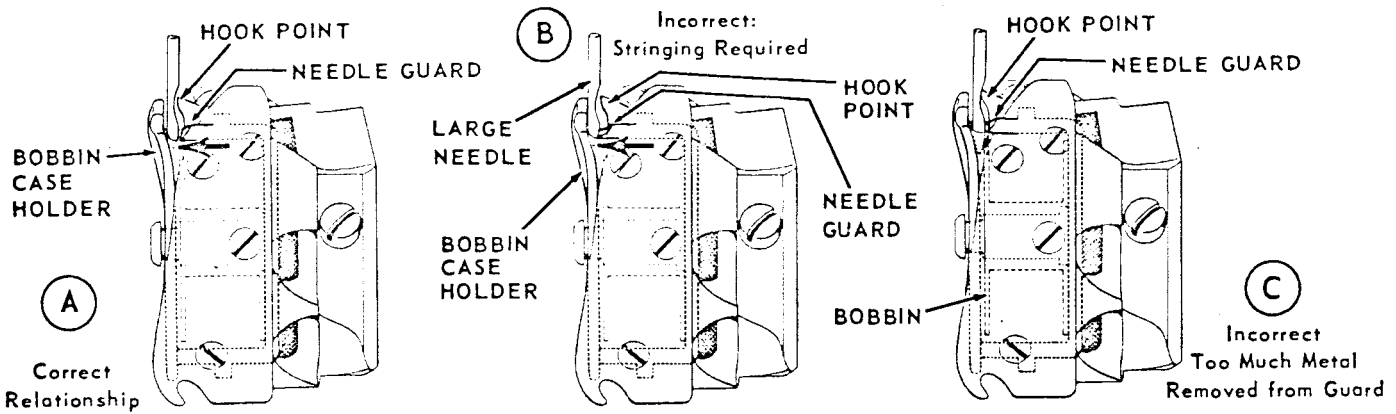

Fig. 51. Needle Guard at Loop-Taking Time
The needle guard on the bobbin case holder, shown in Figs. 51 and 54, should prevent needle from contacting hook or bobbin case at any time. See Fig. 51 (A) for correct relationship. When large needles (size 20 or larger) are used, needle guard may deflect needle too far toward left resulting in damage to needle. See Fig. 51 (B). To avoid this, it may be necessary to string the needle guard in accordance with the following instructions.
EXTREME CARE should be taken to avoid removal of too much metal as this may permit needle to strike hook. See Fig. 51 (C). Bobbin case holder will then need replacement.